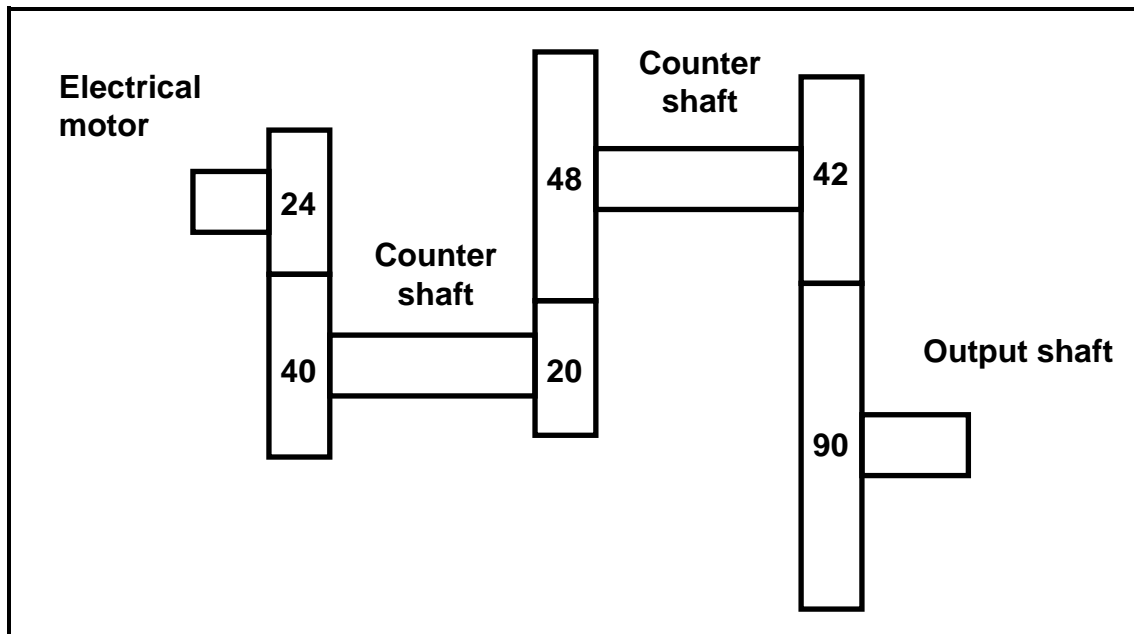

FIGURE 6.3
- 6.4 FIGURE 6.3 shows a gear drive system. A driver gear on the shaft of an electric motor has 24 teeth and meshes with a gear on a counter shaft with 40 teeth. On this counter shaft is another driver gear with 20 teeth that meshes with a gear with 48 teeth on a second counter shaft. The second counter shaft has a driver gear with 42 teeth which drives a gear with 90 teeth on the output shaft.